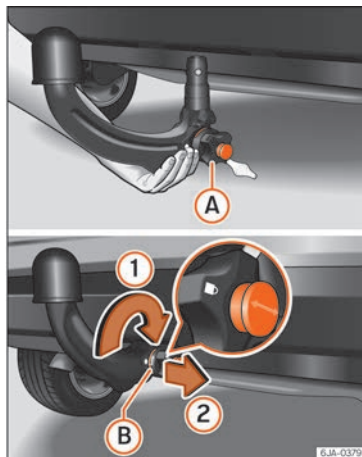

Fig. 236 Placing the ball-headed bar/locking and removing the key.
- Hold the ball-headed bar from underneath »» Fig. 236 and push it into the clamping bush as far as possible until you hear it click into place »» ⚠.